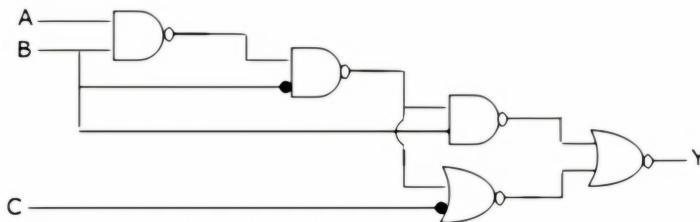

Fig. 4.30
55. For the logic circuit shown in Fig. 4.30, find the simplified Boolean expression for the output.